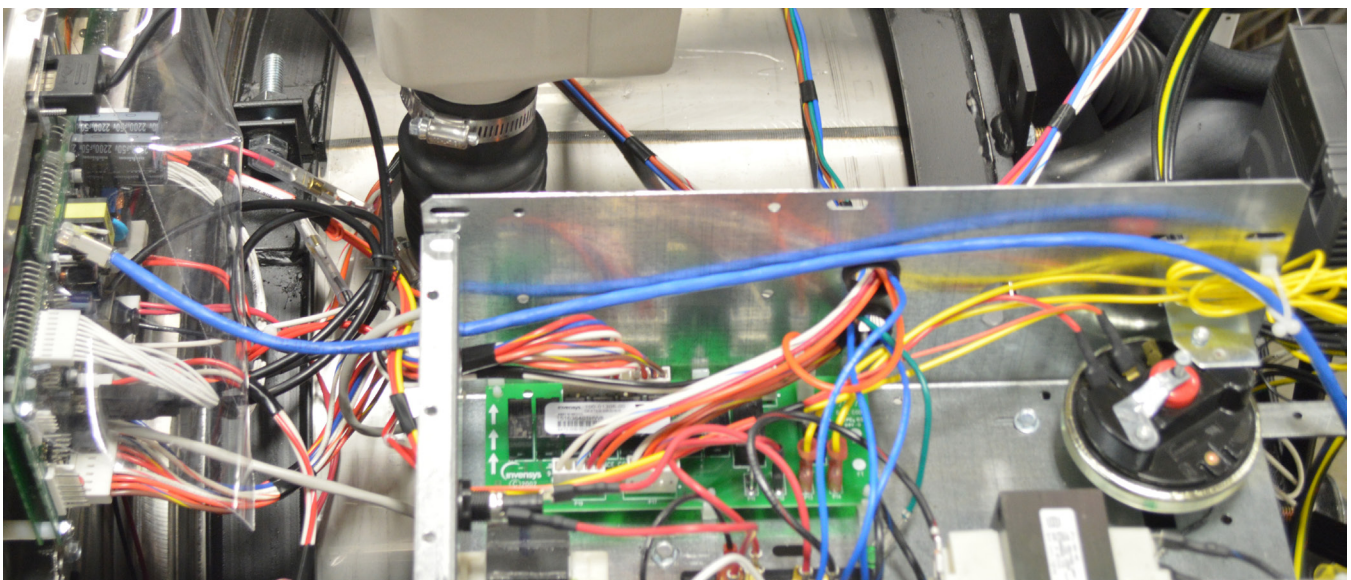

Figure 4
17. Route the cable from the Ethernet switch to the front of the machine along the inside of the control trough where it can be connected to the control panel (Figure 4).